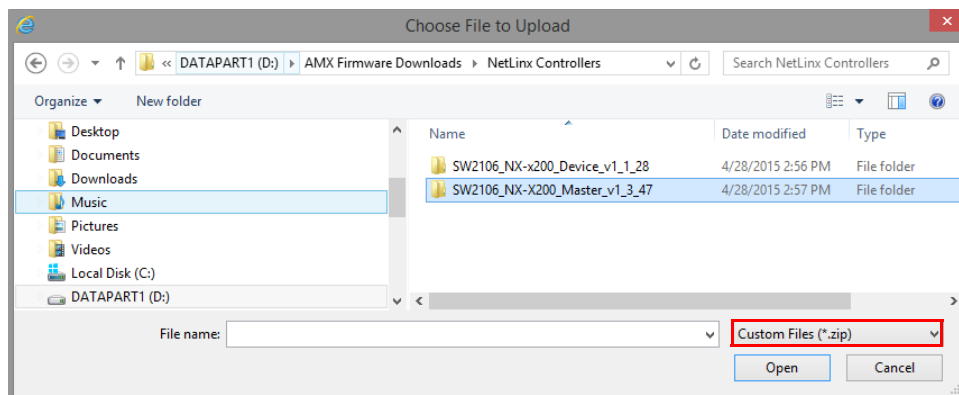

FIG. 46 Choose Files to Upload dialog
3. Click **Upload Files** to locate and select a firmware (ZIP) file to upload, via the *Choose File to Upload* dialog (FIG. 46):